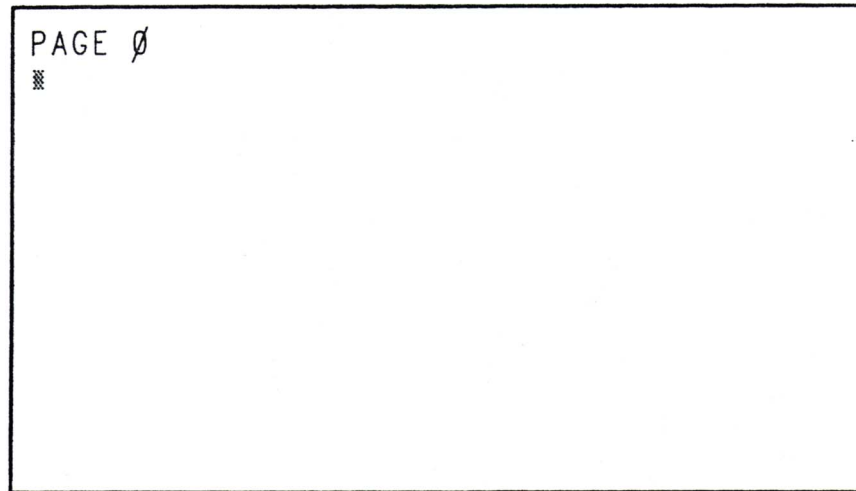

Figure 5-1
- 2) Type the message PAGE 0, followed by a RETURN, on the keyboard. Since the Display Page and the Working Page are both assigned to 00 on power-on, the VuePoint™ screen should look as shown in Figure 5-1.
- 4) Recalling what we said about ESC N earlier, issuing the command again should simultaneously move both the Display and Working Pages to the next page of memory. Try it. If you have a basic VuePoint™, you'll be back to page 00 (Figure 5-1), for it only has three pages. If not, you'll be on to page 03. In either case, typing in a message will cause it to be displayed immediately, showing you that both the Display and Working Pages moved together.